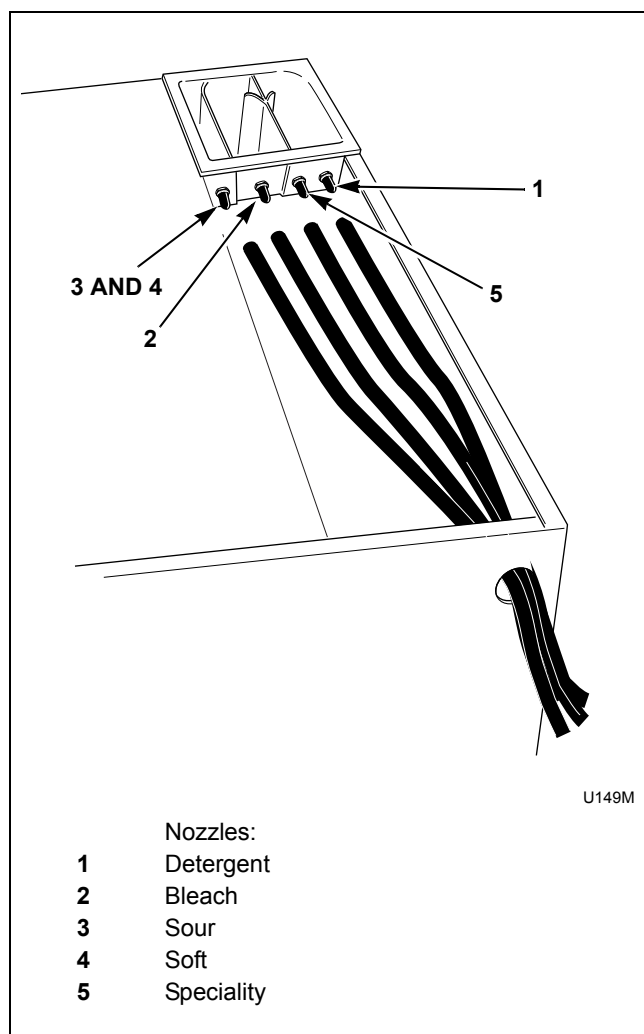

Figure 44
3. Locate the 4 capped nozzles on the rear of the liquid supply dispenser and remove caps. Refer to *Figure 44*.